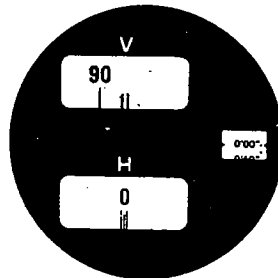

Fig. 21
- b. Loosen the horizontal clamp ⑫ and the lower clamp ⑬ and hold the upper alidade lightly. Turn the circle positioning ring ⑩ until the 0° button ④ is aligned with the 0° index ⑥. Graduation 0° appears in the H window.
- c. Tighten the horizontal clamp ⑫ and turn the horizontal fine motion ⑪ until the index line bisects the 0° double line, Fig. 21.